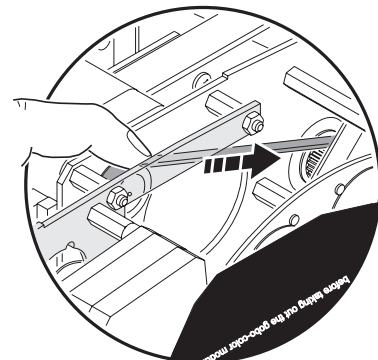

Figure 18: Retracting the gobo animation wheel
6. Flip the head top side up again. To avoid bending the gobo animation wheel when you remove the module, move the wheel in towards the center of the module by inserting a finger and rotating the positioning belt idler pulley at the top of the module as shown in Figure 18.